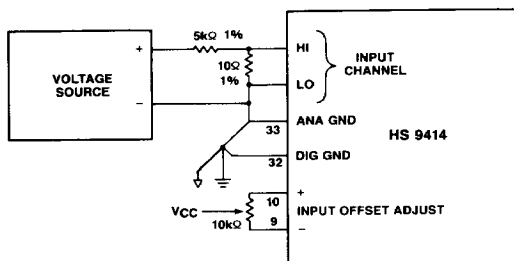

Figure 10. Suggested SPGIA Input Offset Calibration Circuit
- a) Apply $1/2$ LSB to the input channel via a 500:1 attenuator as shown in Figure 10 or via the external front end circuitry. $1/2$ LSB at gain of 500 is $4.8 \mu\text{V}$ for 20V range units (HS 9414X-2) and $2.4 \mu\text{V}$ for 10V range units (HS 9414X-1).